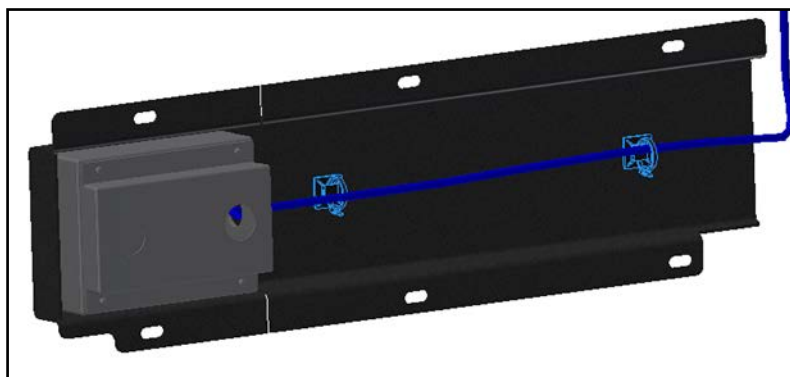

Figure 4 - Sensor Cable Routing
1.8. Route the electrical cable and secure with G5007993 cable ties as needed. You may have too many. Dispose of unused cable ties. See Figure 4.